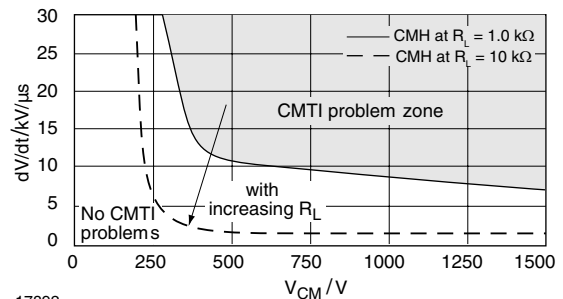
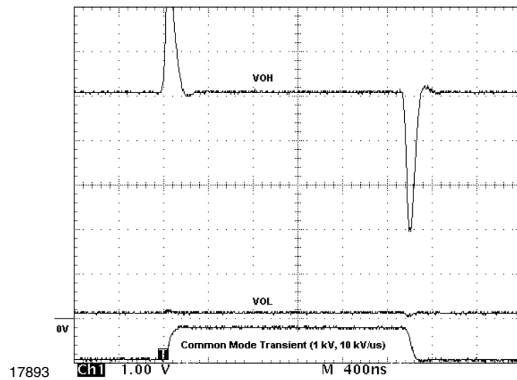

Fig. 16 - Typical  $CM_H$  Characteristics for 4 pin Transistor Optocouplers
Fig. 17 - Typical Behavior of a 4 pin Optocoupler During Excessive Common Mode Transients
In general these optocouplers are very robust to common mode transients, due to the fact, that the base is not connected. Hence, the common mode transient immunity is mainly determined by direct coupling to the output via  $C_{CMO}$ . The duration of the output signal distortion matches with the transient change (rising or falling edge). Refer to figure 17. The following considerations only apply to systems which can react on distorted signals which are in the range of a few hundred nanoseconds and less. The off state ( $CM_H$ ) is in most applications the critical one and limits so the overall performance. Figure 16 shows the typical dV/dt vs.  $V_{CM}$  curve for two different pull up resistor values.
- If operating the phototransistor in transistor switch or emitter follower mode, the pull up resistor should be chosen to a low value (compare with figure 16)